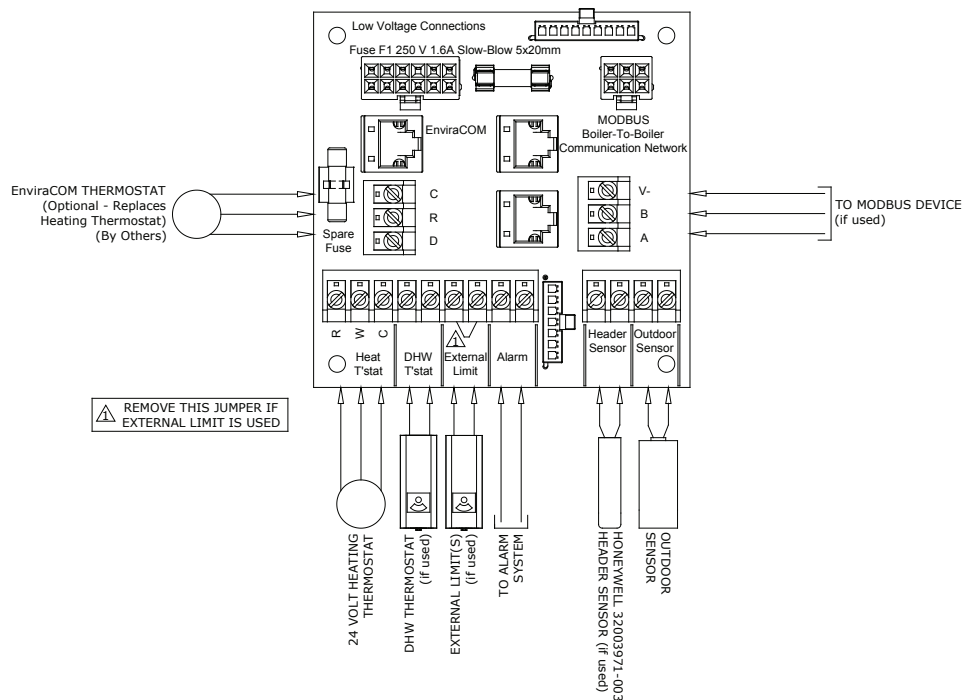

Figure 10.3: Low Voltage PCB Terminal Connections
**This boiler is equipped with a listed high water temperature limit function. This limit provides boiler shutdown in the event the boiler water temperature exceeds the set point of the limit control. Certain Local Codes require an additional water temperature limit. If necessary, install an additional water temperature limit such as a Honeywell L4006 Aquastat. Wire as indicated in Figure 10.3.**
2. Low Voltage Field Connections – Low voltage field connections on the low voltage PCB are shown in Figure 10.3 and are listed from top to bottom:
- DHW T’Stat - 24VAC domestic hot water thermostat (1)
- DHW T’Stat - 24VAC domestic hot water thermostat (2)
- External Limit - Field supplied low voltage safety limit contacts (1)
- External Limit - Field supplied low voltage safety limit contacts (2)
- Alarm Contact (1)
- Alarm Contact (2)
- Outdoor Sensor - Tasseron TSA00AA Outdoor Temperature Sensor (1)